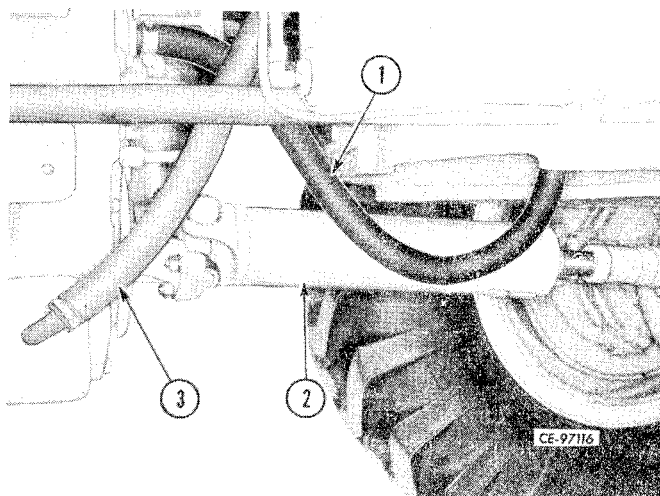

Figure 4-11
Disconnect strainer-to-pump hose (3, Fig. 4-11) at transmission. Disconnect overflow-to-transmission hose (1) at transmission.
Remove lower rear drive shaft (2, Fig. 4-11) from transmission.